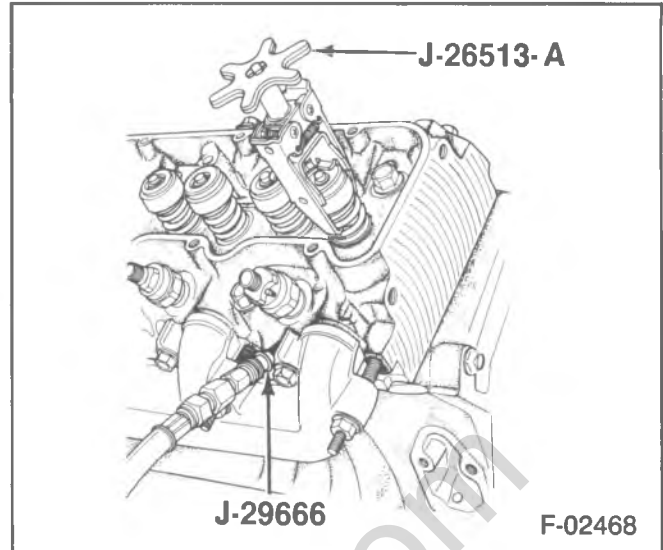

Figure 9—Compressing the Valve Spring
- Use J-26513-A to compress the valve spring (figure 9). If the spring will not compress, tap on the tool lightly with a mallet to break the cap or rotator loose from the valve keepers.
- With air pressure applied to the cylinder with J-29666, compress the valve spring with J-26513-A (figure 9).